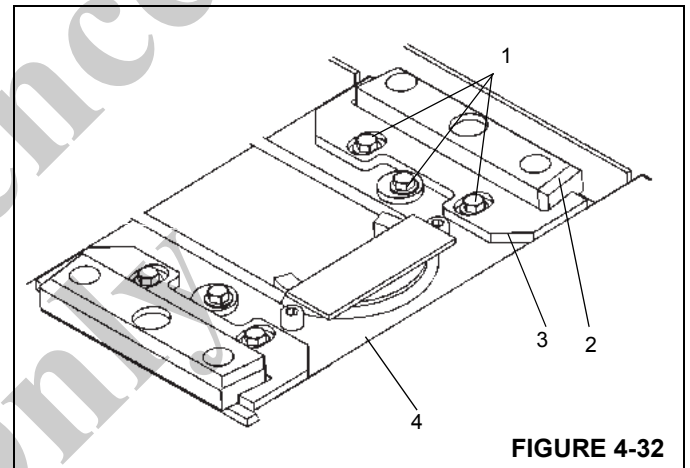

FIGURE 4-32
14. Through the top access hole in the inner mid, position the two adjustable wear pads (2) on the top rear of the outer mid (4). Install each wear pad holder (3) and loosely install each with two capscrews and washers. Install offset washers, capscrews, and washers (1) (Figure 4-32). Using the offset washers, adjust the wear pads such that the wear pads are within 1 mm (0.03 in) from each side plate of the next outer section. Tighten the offset washer and capscrews.